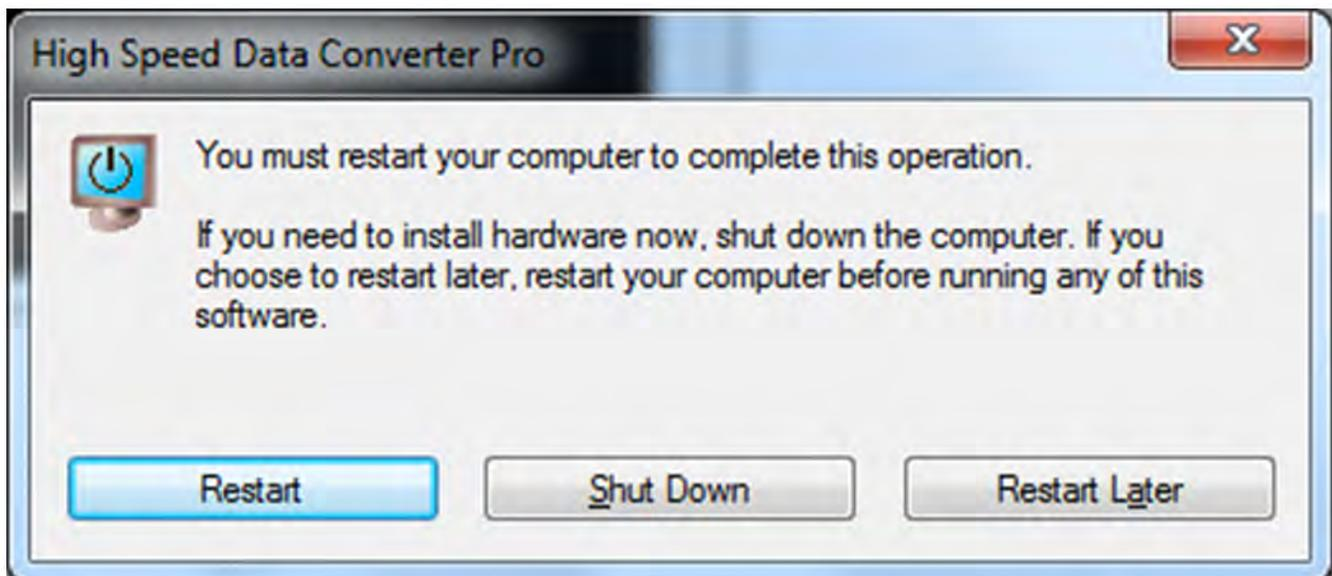

Figure 35. HSDCPro Install
- As shown in Figure 35 a restart might be requested depending on whether or not the PC already had the National Instruments MCR Installer. If requested, hit the *Restart* button to complete the installation.